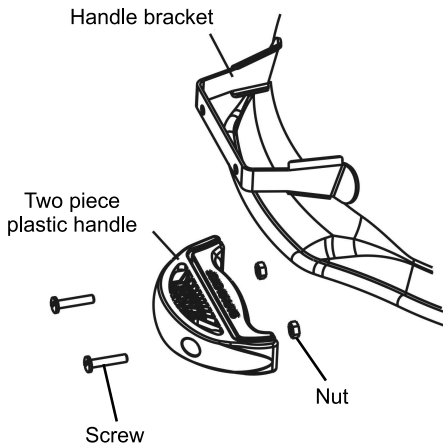

Fig. 7
- Fit the handles to the dome by pushing the handles over the handle brackets and fastening them using the screws and nuts supplied. (See Fig. 7)